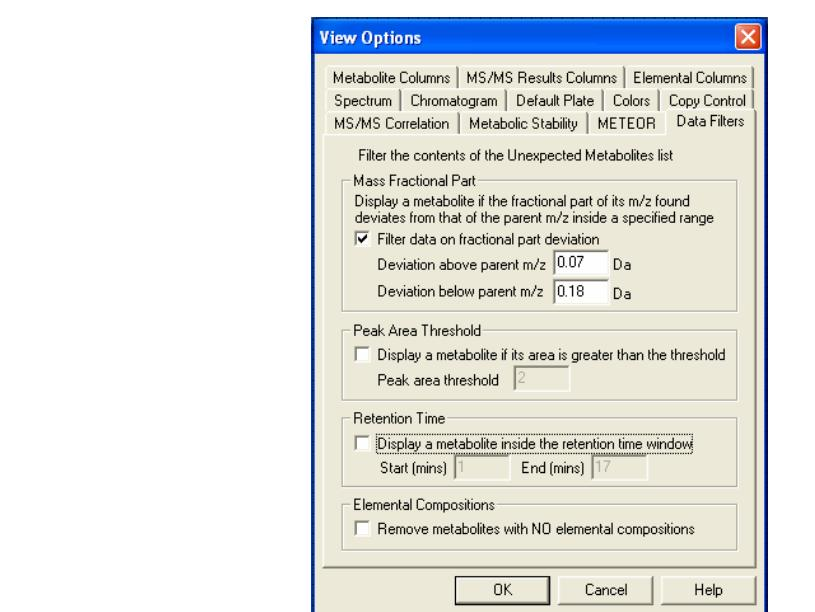
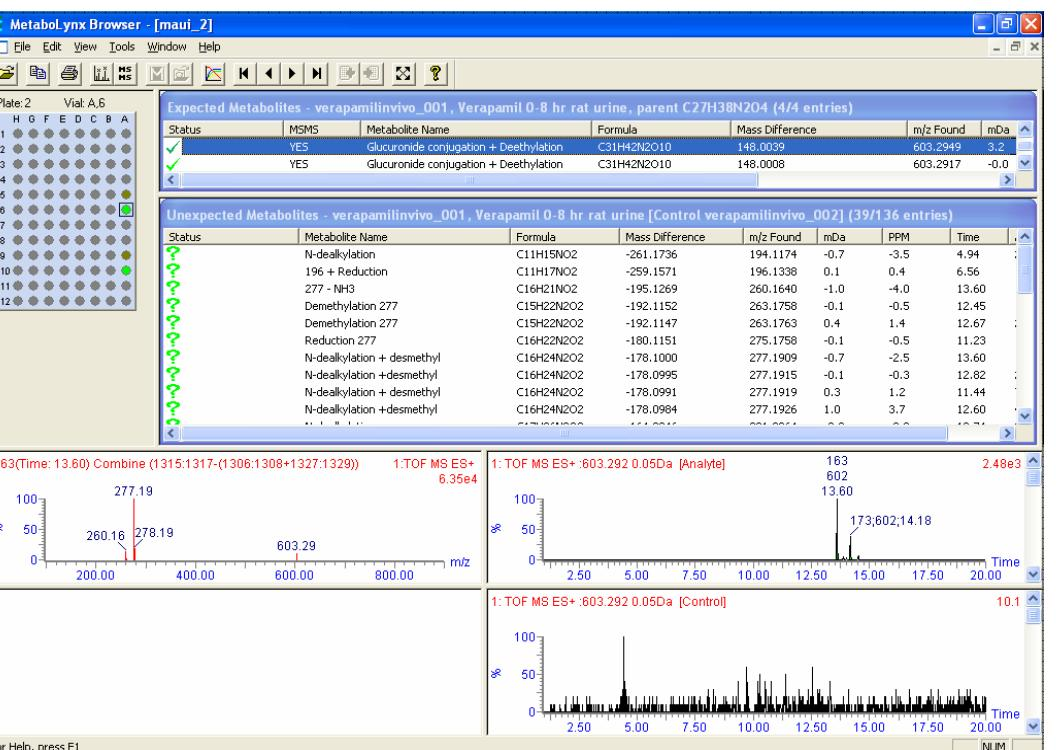

Figure 3. Shows the exact mass data filter applied to the data set in the browser
Figure 4. Shows the Metabolynx Browser with all of the Verapamil metabolites in urine detected
- With the use of the exact mass data filter tool (Figure 3) the number of entries in the unexpected table on the Metabolynx Browser were reduced from 136 to 39 'real entries' (Figure 4). All metabolites detected showed mass measurements of RMS = 2.83 ppm (Table 1)